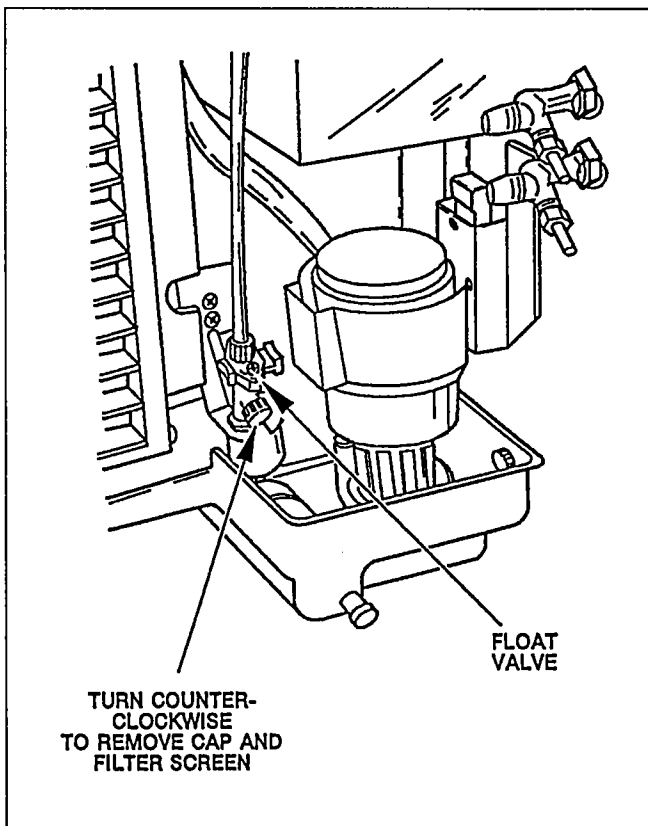

FIGURE 12. CLEANING FLOAT VALVE FILTER SCREEN
- Has filter screen in float valve been cleaned? See Figure 12.